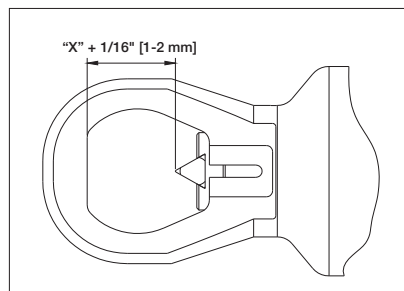

Figure 7
4. Rotate the cutting head until the distance from the head flat to the tip of the blade is the same as the nut to bolt distance previously measured in Step 1 PLUS an additional 1 to 2 mm (1/16"). See Figure 7.